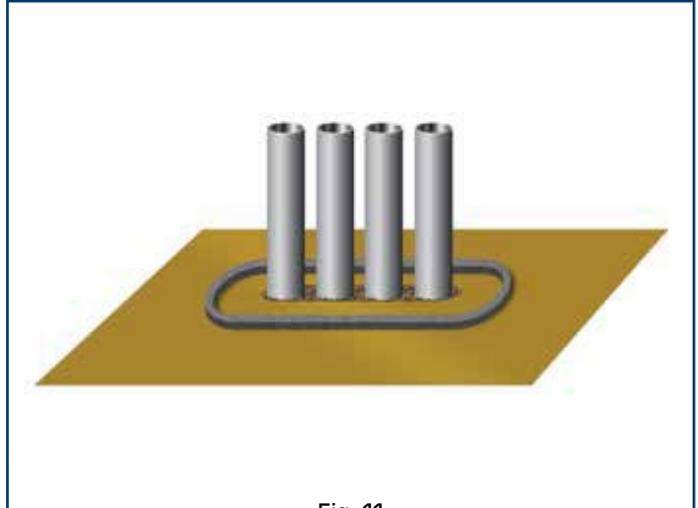

Fig. 11
- C. Create a dam around the penetration area approximately 2" away from the pipe or other vertical penetrations by removing the release liner from the back of a 1" weather stripping foam and adhere to the vapor barrier. Form a complete circle to contain the POUR-N-SEAL™ materials (Fig. 11).